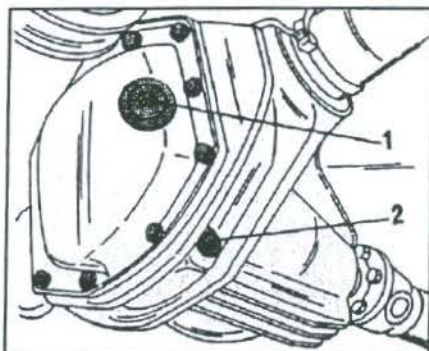

Fig. 5.12 – The location of the oil level/filler plug (1) and the oil drain plug (2).
- Place the rear end of the vehicle on chassis stands and unscrew the drain plug at the position shown in Fig. 5.12, using the Allen key mentioned above. Again the area around the plug must be thoroughly cleaned. Take care if the oil is hot, as it will shot out immediately.
- Clean the cover of the axle drive and unscrew the level/filler plug (1) in Fig. 5.12.